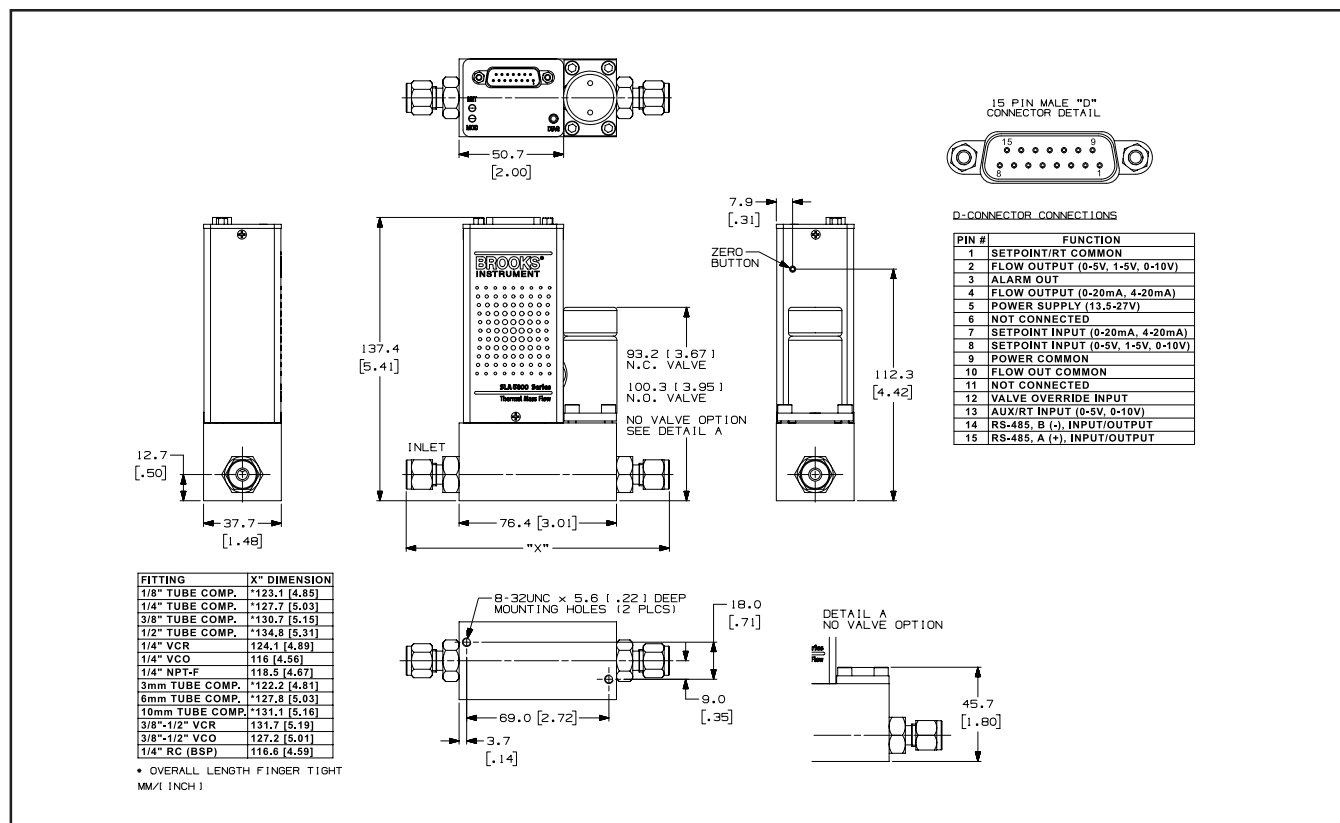
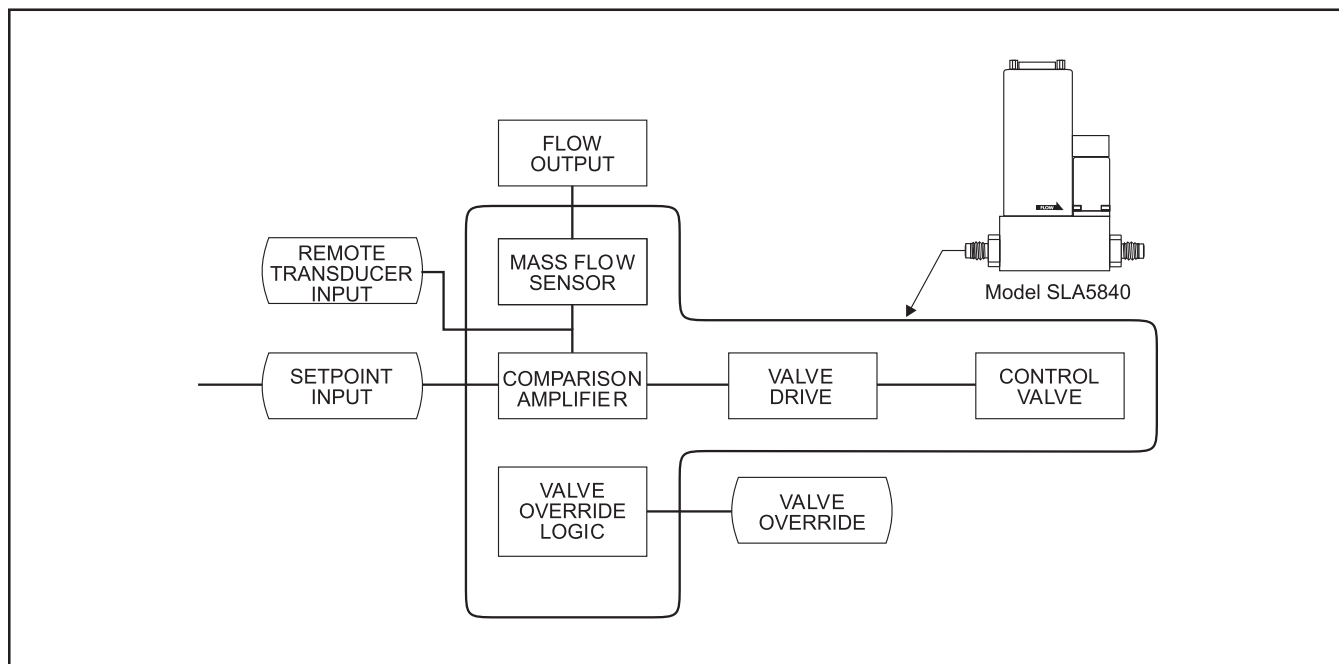
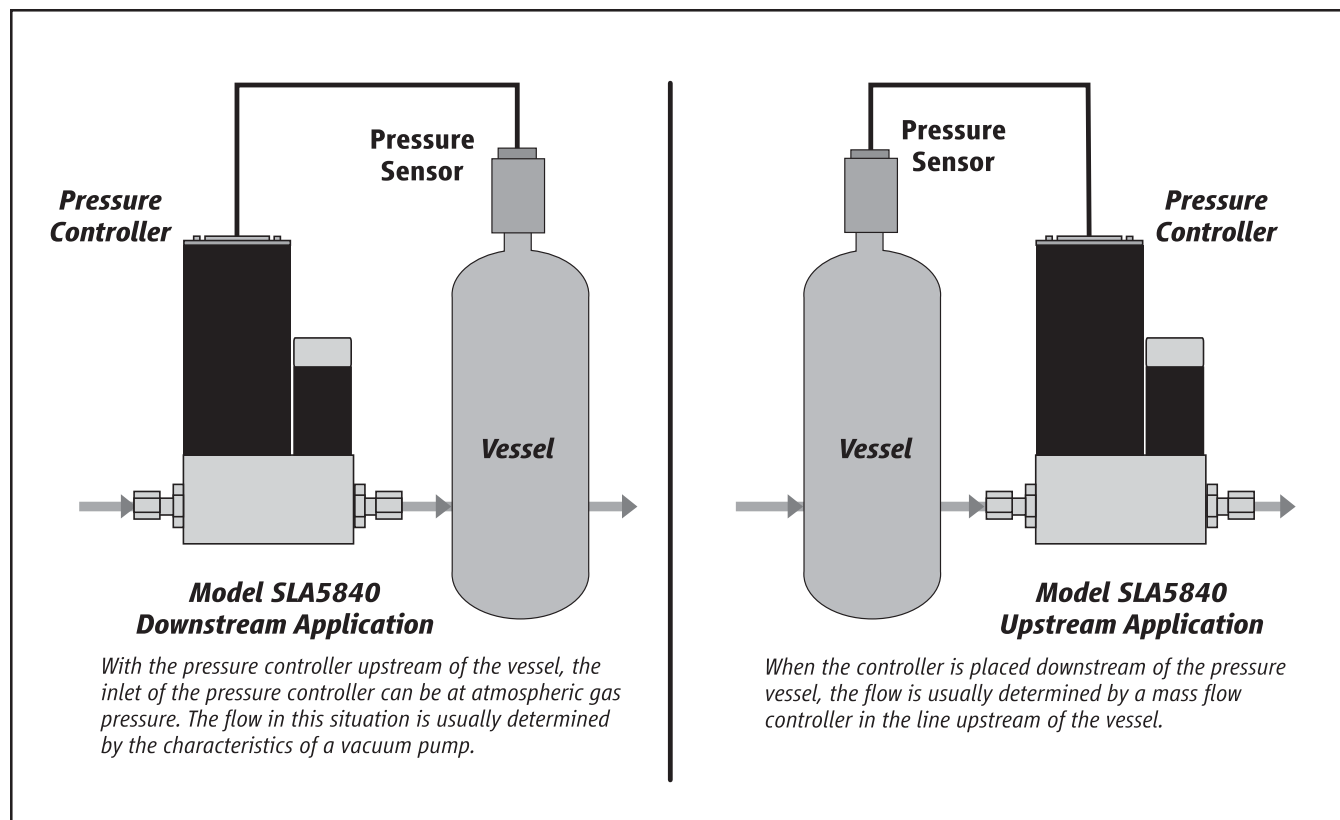

Figure 1-4 Model SLA5840, Thru-Flow, RS485
Figure 3-1 Model SLA5840 System Block Diagram
Figure 3-2 Model SLA5840 Downstream and Upstream Applications
The Brooks SLA5840 is a Remote Transducer (RT) pressure controller with an integral Mass Flow sensor for flow indication. This device will control the pressure in a vessel or feed or exhaust line by using the remote transducer output signal as the transducer input of the SLA5840. This user supplied pressure transducer can have a full scale pressure as low as 10 mTorr or as high as several hundred psi and a full scale output signal of 5 or 10 Vdc. The control electronics PID circuit compares the pressure signal to a setpoint and acts to regulate the flow through the integral solenoid control valve to stabilize the pressure at the setpoint value. An integral mass flow sensor, identical in design to the Brooks SLA5850 Mass Flow Controllers, provides a signal proportional to the flow through the control valve. A system block diagram is shown in Figure 3-1. The integration of mass flow sensor, control electronics and control valve into one unit results in a compact size. The mounting dimensions are comparable to a mass flow controller. Refer to Figures 1-4 thru 1-6. In the most common configuration, Downstream Pressure Control mode, the pressure controller is positioned upstream of the pressure vessel. It controls pressure in this downstream vessel by controlling flow into the vessel. (see Figures 3-2 and 3-3)
In the upstream pressure control mode, the pressure controller is placed at the outlet side of the pressure vessel. (thus controlling pressure upstream of itself) (Figures 3-2 and 3-4).